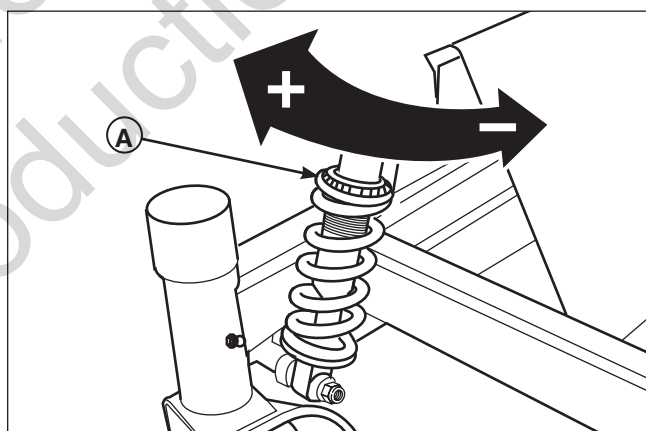

Figure 35. Suspension Adjustment
2. See Figure 35. Turn the pre-load adjustment collar (A) CLOCKWISE to increase the pre-load, turn COUNTER-CLOCKWISE to decrease the pre-load. Make sure both front shocks are set to the same amount of pre-load. Make sure both rear shocks are set to the same amount of pre-load.